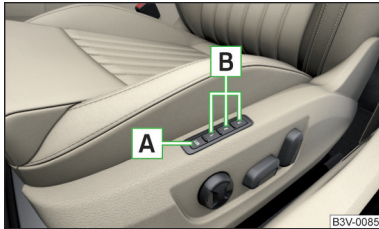

Fig. 75
Each of the three memory buttons **B** » Fig. 75 can each be assigned a set position.
- › Press the **SET** button (Position **A** » Fig. 75).
- › Press the required memory button **B** » Fig. 75.
- › Press and hold any memory button **B** » Fig. 75 on page 83.
- › Press the **SET** button (Position **A**) » Fig. 75 on page 83) and hold.